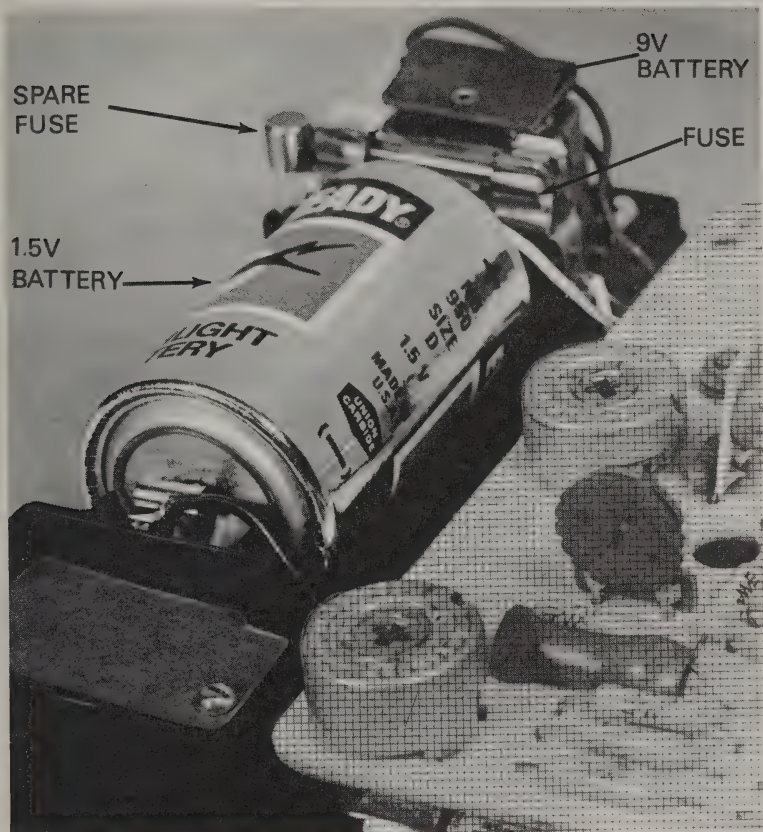

Figure 5-2. Rear Interior (Case Removed)
NOTE: If replacement of the 2-amp high current interrupting fuse is necessary, the Instrument case must be removed (see paragraph 5.4 and Figure 5-2).
- c. Lift the case off the Instrument and set it aside. Maintenance now can be performed on the Instrument (Figure 5-2).